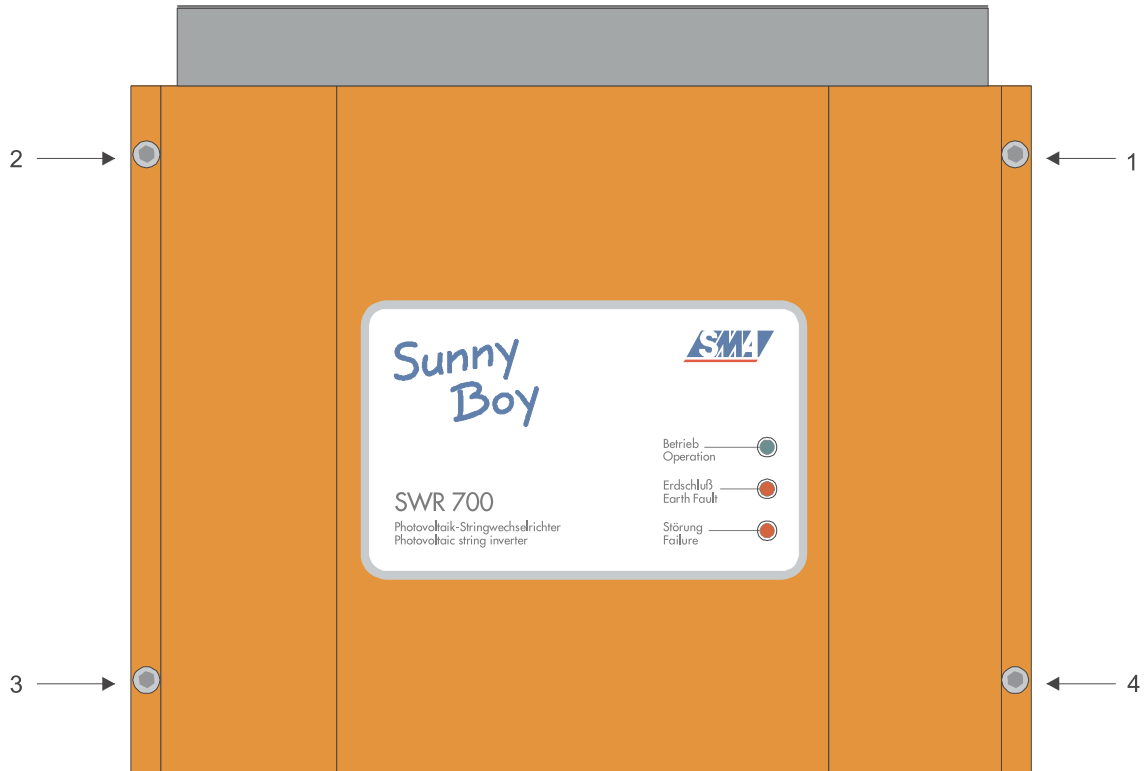

Fig. 5.2: Front view of the Sunny Boy 700
4. Take off the lid by removing screws 1-4 (see Fig. 5.2 on page 47) on the lid (M5).